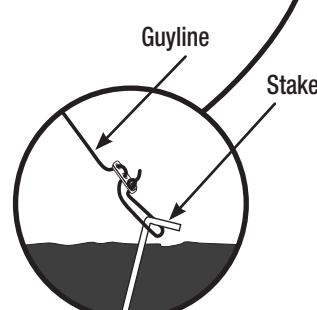

Fig. 14
- Attach and stake out guylines. (Fig. 14)